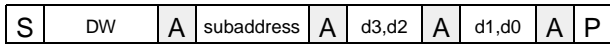

**Fig. 3–1:** Example of an I2C bus protocol for the MAS 35x9F (MSB first; data must be stable while clock is high)
Fig. 3–1 shows I2C bus protocols for write and read operations of the interface; the read operations require an extra start condition and repetition of the chip address with the device read command (DR). Fields with signals/data originating from the MAS 35x9F are marked by a gray background. Note that in some cases the data reading process must be concluded by a NAK condition.